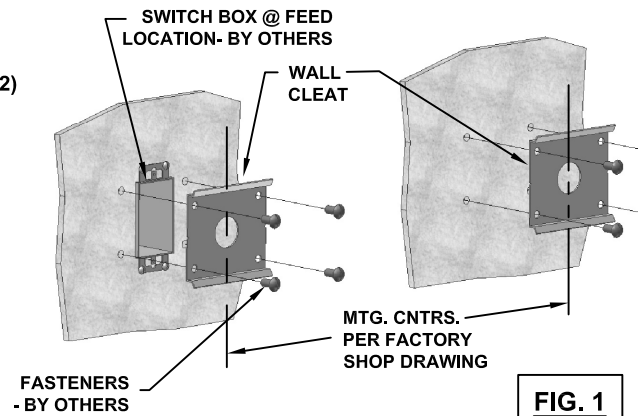

FIG. 1
USING WALL CLEAT AS A TEMPLATE, CENTER OVER VERTICALLY MOUNTED SWITCH BOX AND MARK (4) MOUNTING HOLES. USE LEVEL TO PLUMB WALL CLEAT (FIG. 1). DRILL HOLES APPROPRIATE FOR MOUNTING SURFACE AND FASTENERS TO BE USED. SECURELY ATTACH WALL CLEAT TO WALL.